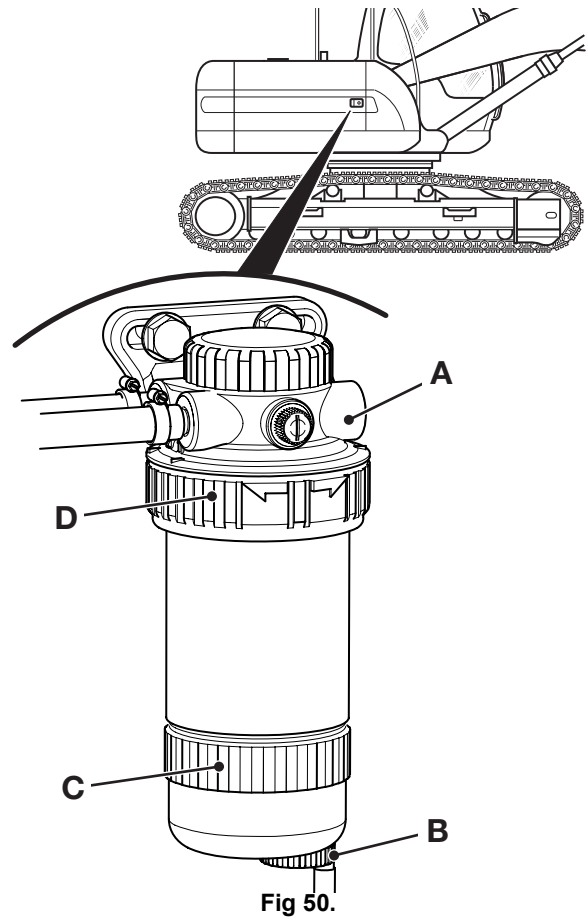

Fig 50.
- 2 Locate filter/sedimenter **A** → Fig 50. (□ 3-65).